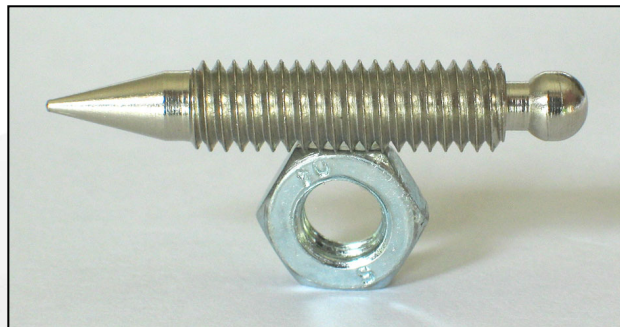
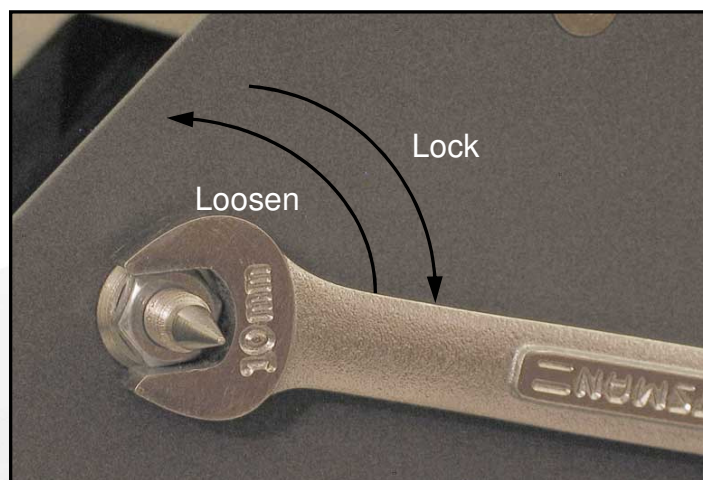

Figure 5. Double Ended Spike and Nut
Figure 6. Adjusting a Spike Nut
The base of the Borderland Mk IV is fitted with four spikes. These are double ended as shown in figure 5 and are locked in position with a nut. You will need an open ended 10mm spanner to adjust them - figure 6.
sitting squarely on its spikes. Lean the loudspeaker to the left again and lock the nut on the right front spike (figure 6), taking care not to change the spike's setting. Do not use excessive force when locking the nut as this may damage the loudspeaker base plate.
2. **If the loudspeaker can be rocked in the 2 o'clock to 8 o'clock direction**, lean the loudspeaker to the left and screw **in** the right hand front spike by the amount of movement you saw at the base of the cabinet. It is best to have an assistant to help hold the loudspeaker. Stand the loudspeaker back up and repeat the process until it is sitting squarely on its spikes. Lean the loudspeaker to the left again and lock the nut on the right front spike (figure 6), taking care not to change the spike's setting. Do not use excessive force when locking the nut as this may damage the loudspeaker base plate.